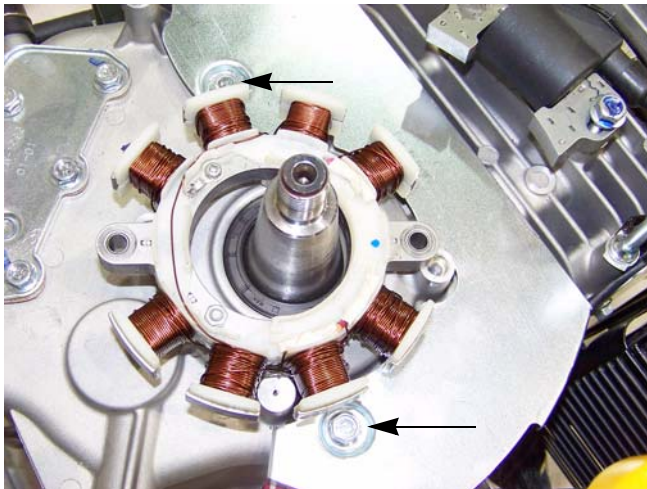

Figure 6.42
5. Remove the two screws, indicated by the arrows in Figure 6.42., that hold the baffle to the engine block using a 10 mm wrench.